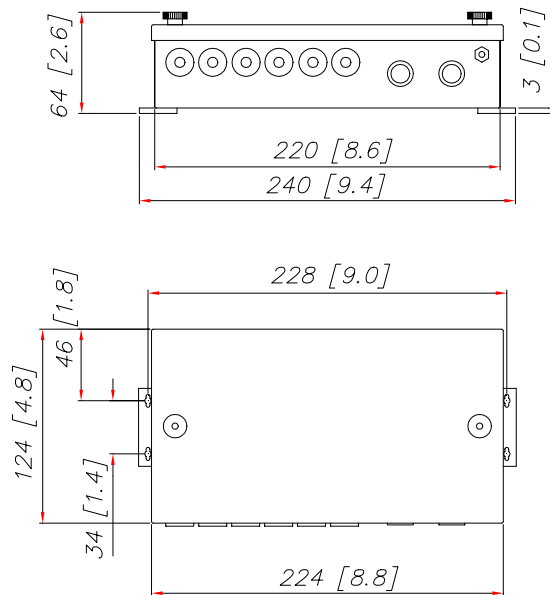

Figure 3-13 CI300X Compass Interface and NI300X NMEA Interface Dimensions
| Dimensions: | See Figure 3-13 |
- Dimensions: See Figure 3-13